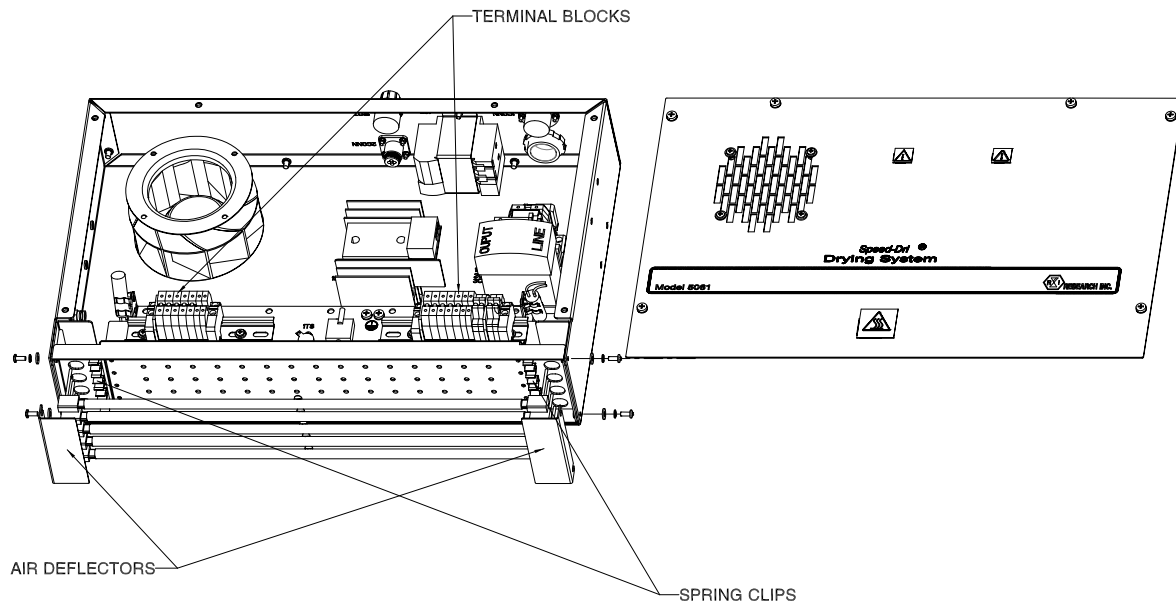

Figure 3-6. Model 5061 Spring Clip and Terminal Block Locations.
2. Loosen, but do not remove, the (4) screws that hold the reflector and air deflectors in place. Slide the air deflectors off of the dryer.
3. Insert the lamp leadwires through the reflector and snap the lamp into the spring clips provided (Figure 3-6). If the lamp clips are excessively tight, gently spread the clip wider. Make sure that the lamp is held securely in the clip.